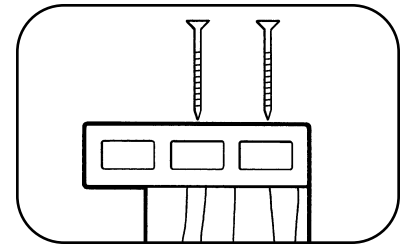

Fig. 38
- Overhang the Top Rail on the outside of the 4x4 (outside the Rail) to allow room for the TimberTech Side Rail (when installed) to be flush with the side of the Top Rail (Fig. 38).
- Pre-drill and place two 2-1/2" stainless steel or galvanized deck screws through the Top Rail into each 4x4 post (Fig. 38). There should be a minimum 1/16" gap between each Top Rail to allow for expansion and contraction.